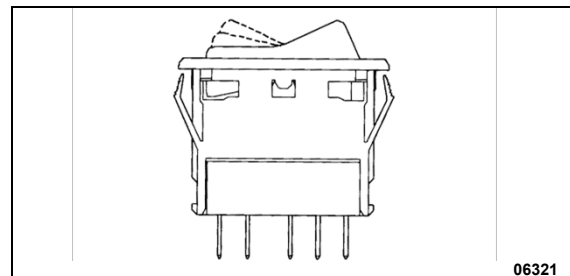

FIGURE 115: SWITCH
3. To install a new switch, reverse the procedure (Figure 115)